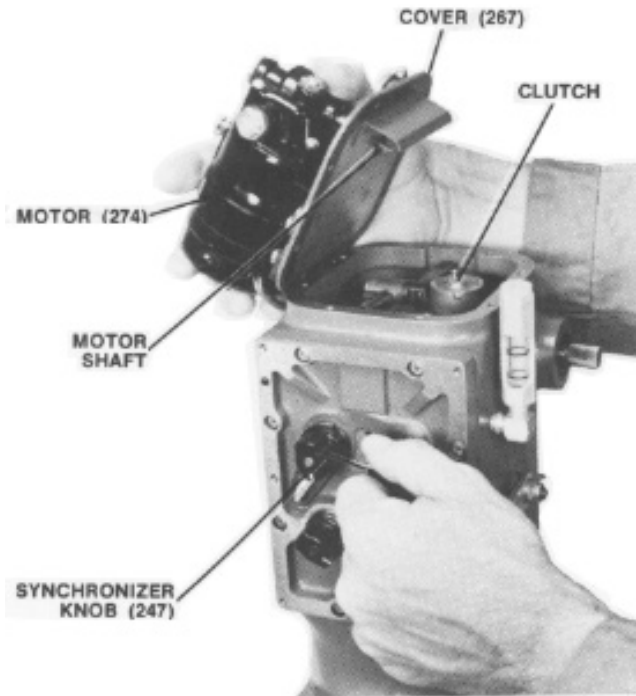

Figure 7-2. Installing Cover with Bodine Synchronizer Motor
Figure 7-2 shows the method for installing the cover (267) when equipped with a motor. Turn the synchronizer knob to align the clutch with the motor's shaft as the cover is lowered into position.